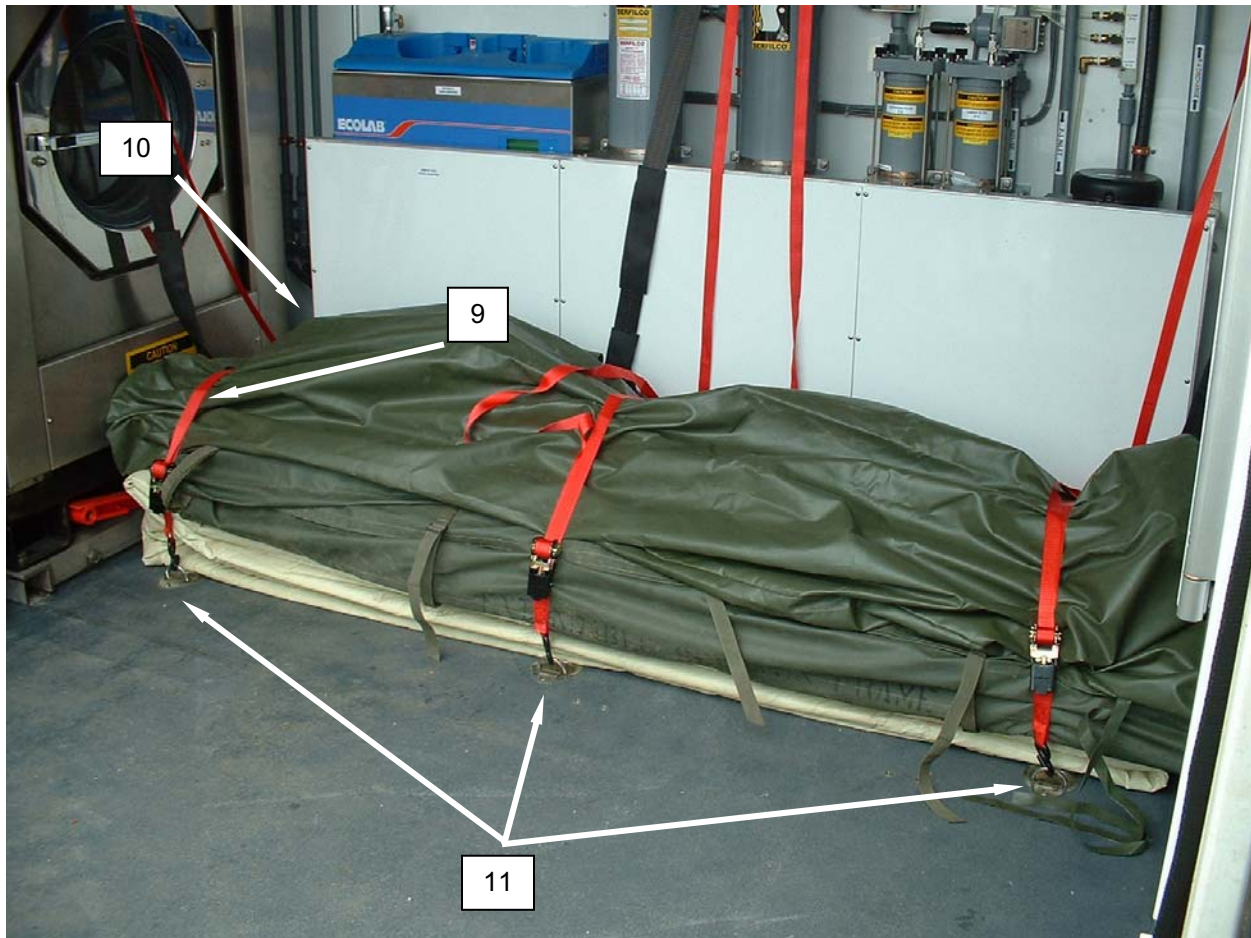

Figure 9. Securing the Straps for Minimum Packout.
13. Place the remaining TEMPER frame section bag (purlins) (**Figure 9, Item 10**) atop the larger frame section bag, extending into the lint compartment of dryer No. 1.
14. Wrap the three 1-inch straps (**Figure 9, Item 6**) over the packed TEMPER components and attach to the center D-rings (**Figure 9, Item 11**). Tighten straps so there is no movement of the packed TEMPER components. Straps may require retightening as the packed floor sections compress.